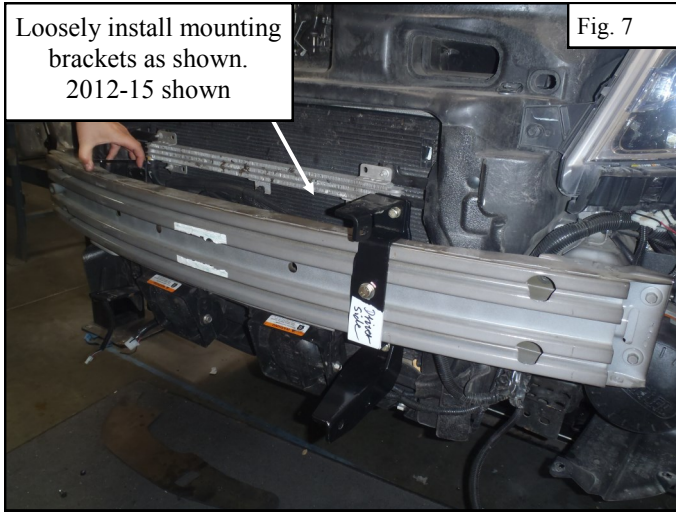

Fig. 7
- Loosely install the mounting brackets, clamp and upper brackets to the exposed bumper bar as shown in (Figure 7). The long M12 bolts go all the way through the bumper channel. The M8 hardware is used to secure the clamp bracket and upper bracket to the mounting bracket.